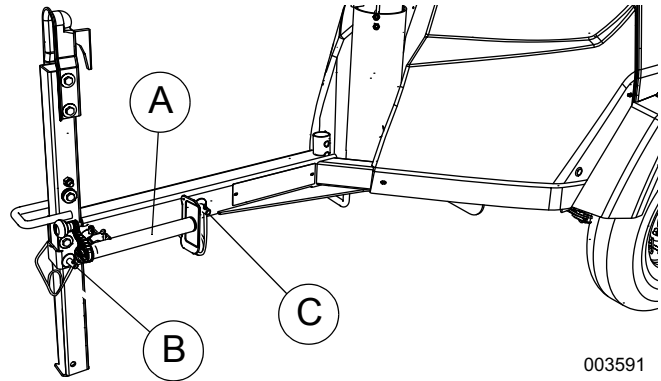

Figure 2-8. Install Pins and Rotate Jack
5. See Figure 2-8. Install pins (B) and (C) at locations shown to secure trailer tongue in storage position.